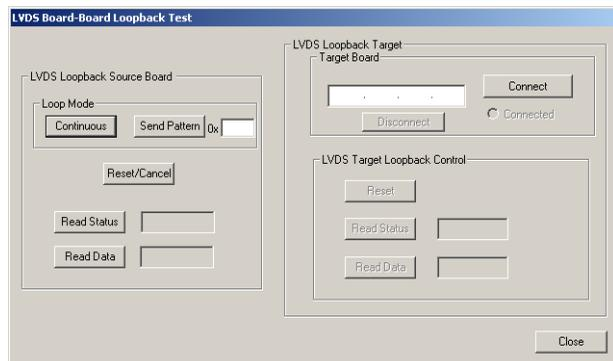

Figure 2-18. LVDS Board-Board Loopback Test Window
- 2. Click Run.** The LVDS Board-Board Loopback Test window displays as shown in Figure 2-18.